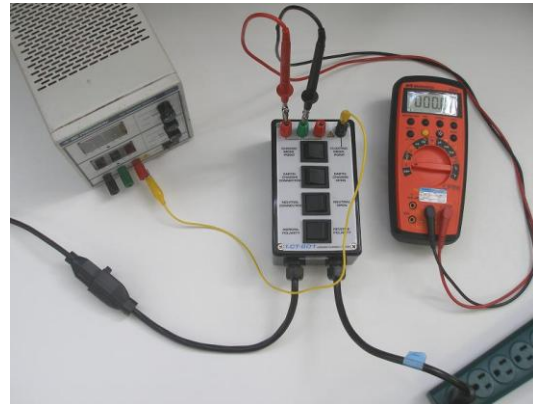

Figure 4 Isolated Patient Leads
12. See Figure 4 and Table 4 for a Test Setup synopsis. This section is based on NFPA 99 Fig. 10.2.13.5.2.3, see below.